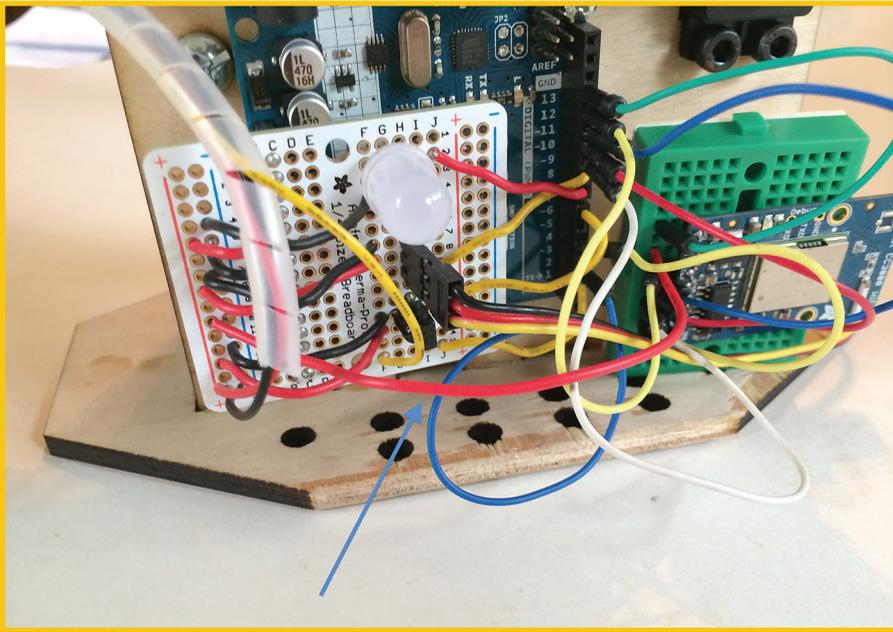

FIGURE 13.13 Grab 5V from the power bus of the breadboard.
STEP 5 Solder a wire to the power bus of the solderless breadboard, and then plug it into the pin of the CC3000 marked VIN. See the red wire in Figure 13.13 called out with an arrow.